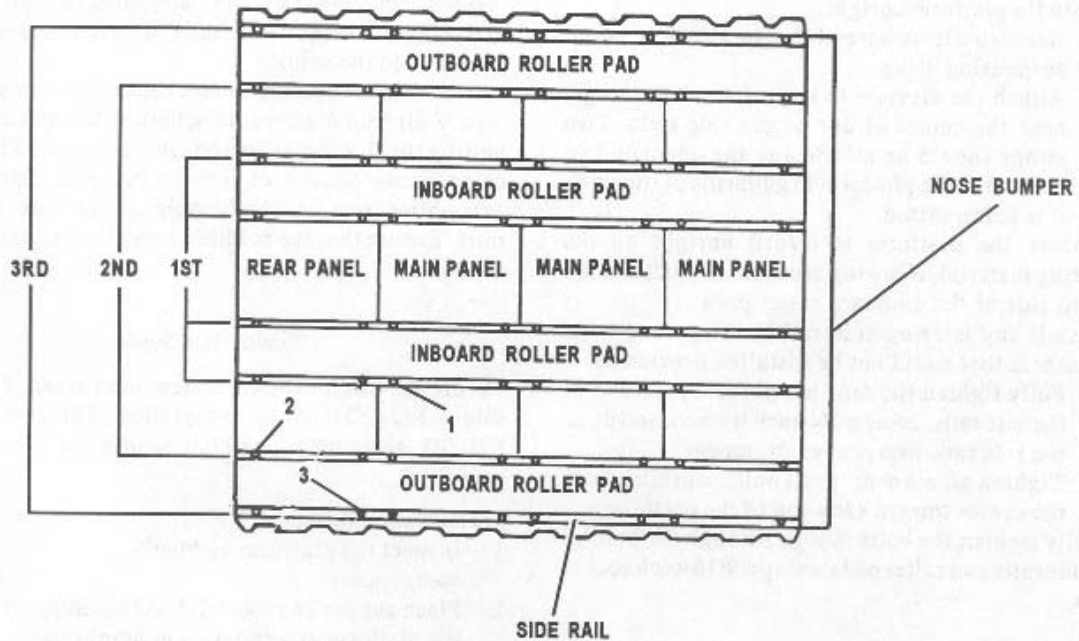

Figure 3-50
9. Install two 8-foot roller pads (referred to as inboard roller pads). (See Figure 3-50)